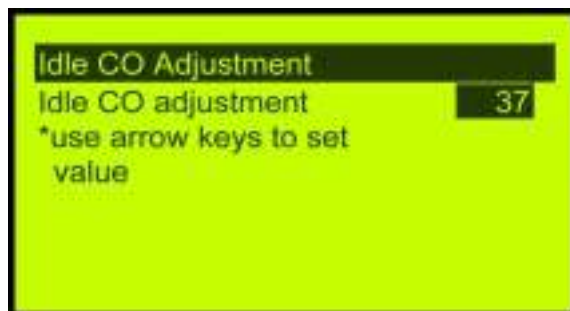

Fig 27
7. When you do not want to check the data analysis above, press "EXIT" key to back to the "4. Idle speed CO adjustment" (LCD background changed into black) (as fig 26) on the main menu. Press "ENTER" key to enter into idle speed CO adjustment. (as fig 27) With the ▲▼ and ◀▶ cursors to adjust the idle speed CO value.